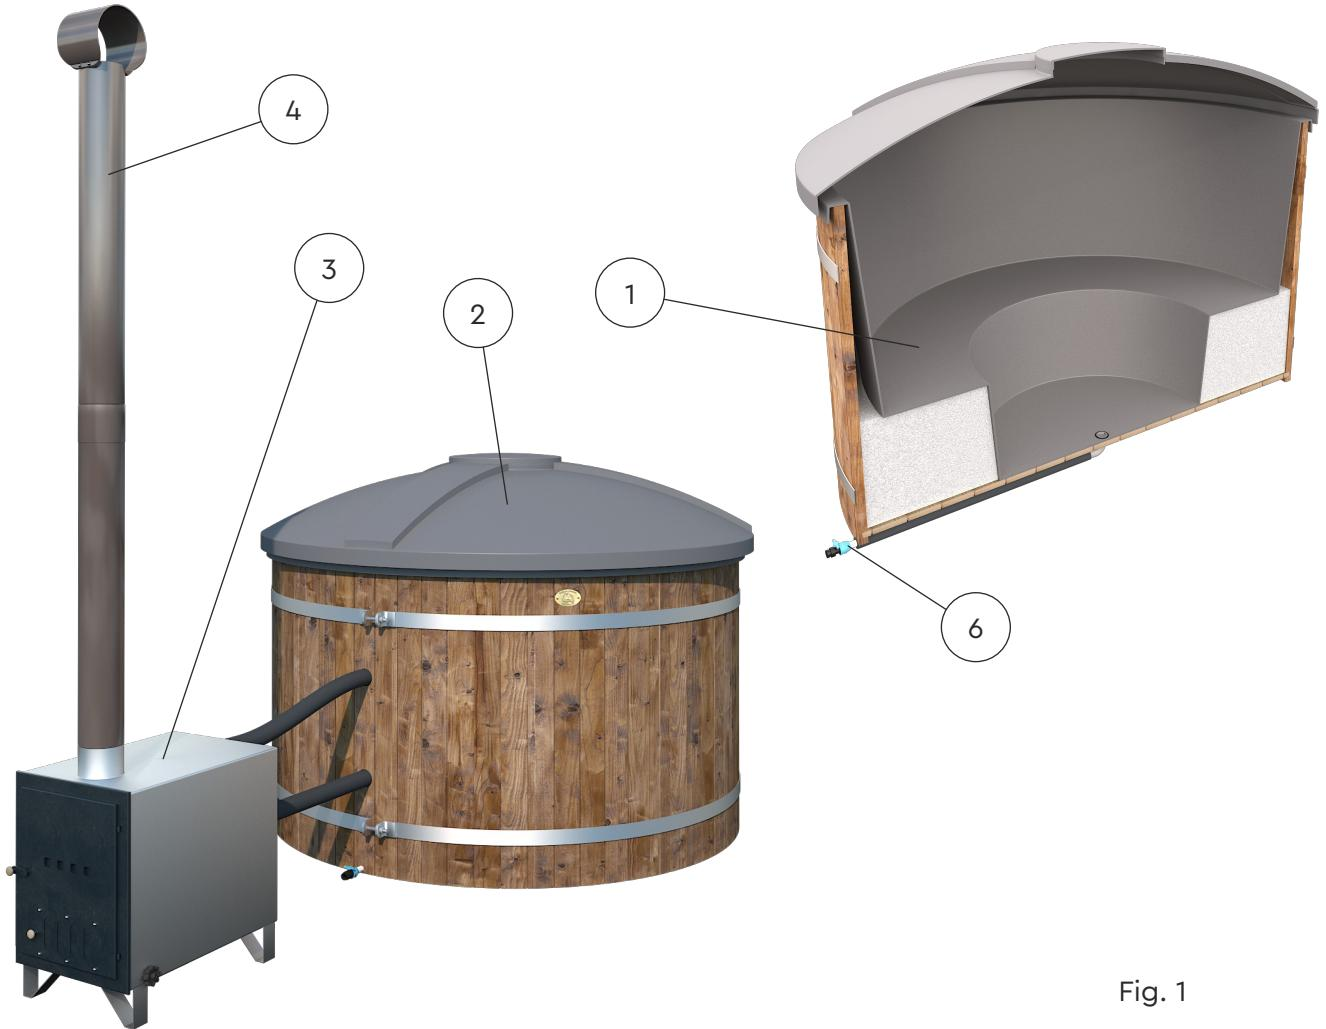

Fig. 1
**Hot tube** – the part of the hot tub filled with water (see Fig. 1).
see Fig. 1